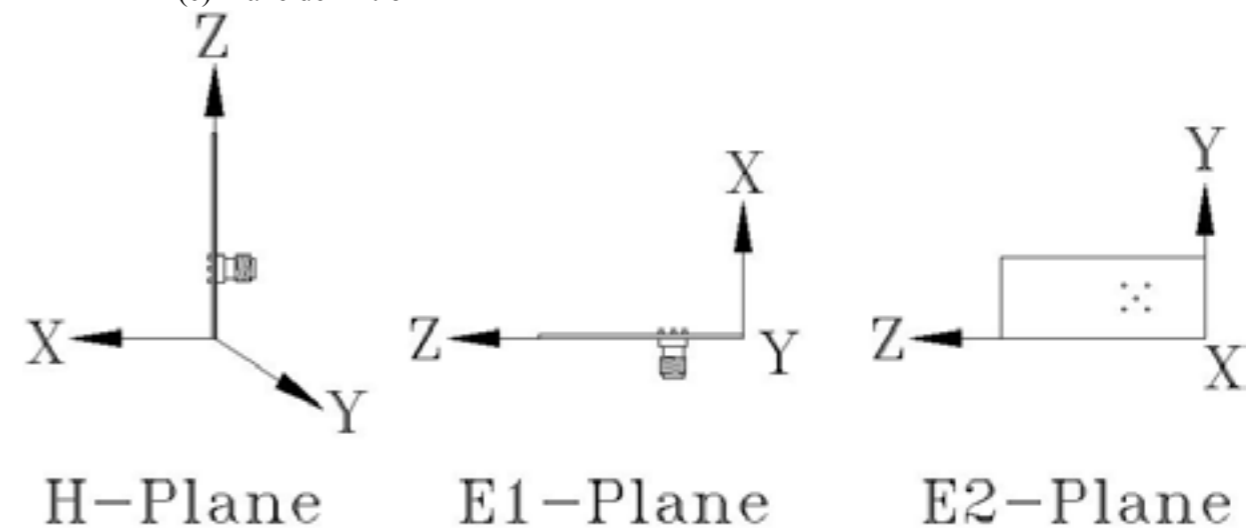

Fig. 4. The plane definition : H-Plane , E1-Plane and E2-Plane.
- (3) Gain of AUT. The standard gain antenna is a gain horn(SG-430 1.7GHz ~ 2.6GHz).
- (4) The planes defined in the Fig. 4 which we want to measure are H(X-Y) , E1(X-Z) and E2(Y-Z) planes. The vertical or horizontal polarization's power is measured by rotating the antenna probe to 0 degree or to 90 degree shown in Fig. 3, respectively. While we combine both vertical and horizontal power, we obtain total power.
- (5) From the total power in three basic planes(H, and E), we can analyze the performance of the antenna is good or not.